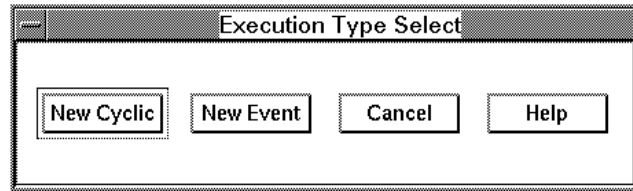

Figure 3-45. Execution Type Select dialog
1. For systems with Master software, click on the **New** button by the Condition Box. This displays the Execution Type Select box, Figure 3-45. Then click on the **New Cyclic** button.